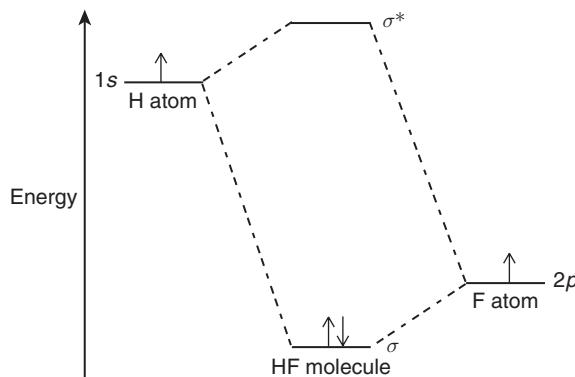

Figure 26 MO diagram of HF.
1. **HF molecule:** The atomic orbital energy levels are: hydrogen $1s$ (-13.61 eV), fluorine $2s$ (-40.17 eV) and $2p$ (-18.65 eV). In this case, there is no s -orbital interaction, because energy difference > 13 eV. The orbitals of $1s$ of hydrogen and $2p_x$ of fluorine can overlap to form a σ orbital due to compatible symmetry; while $1s$, $2p_y$ and $2p_z$ of fluorine have no net overlap and are non-bonding. The MO diagram is as shown in Figure 26.